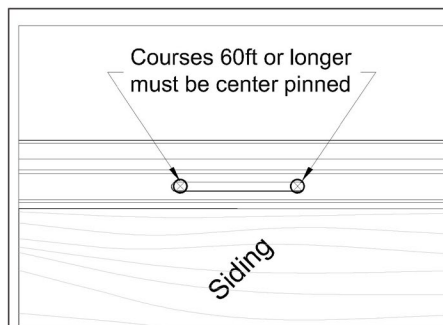

Figure 5
- Courses of siding measuring 60' or longer must be pinned at the center of the course. Pin the course by placing fasteners at both edges of a single nailing slot. This will ensure that a course expands and contracts in both directions (Figure 5).